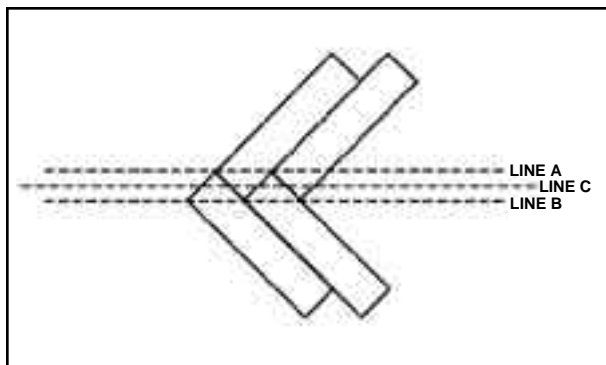
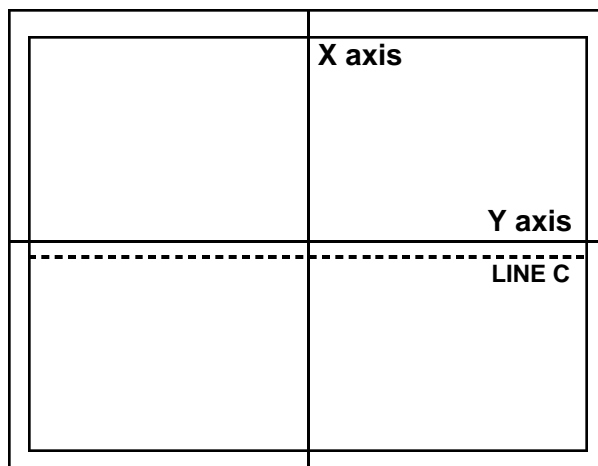

figure 1-3
figure 1-4
Most special patterns can be laid out with the above two working lines. Herringbone will require two lines, one at 90 degrees and the other at a 45-degree angle. These lines must be adjusted to properly center the points of the pattern. *Herringbone direction should be installed in accordance with consumer preference. If the pattern is to be installed in the direction of the length of the room, the herringbone working line should be laid out parallel to line Y. (see figure 1-3 and figure 1-4). Line B in this instance must run parallel to line Y and represent the center of the herringbone material. To determine the center of the herringbone material and establish line B:*
1. Begin by laying out a few alternating slats. (see figure 1-4)